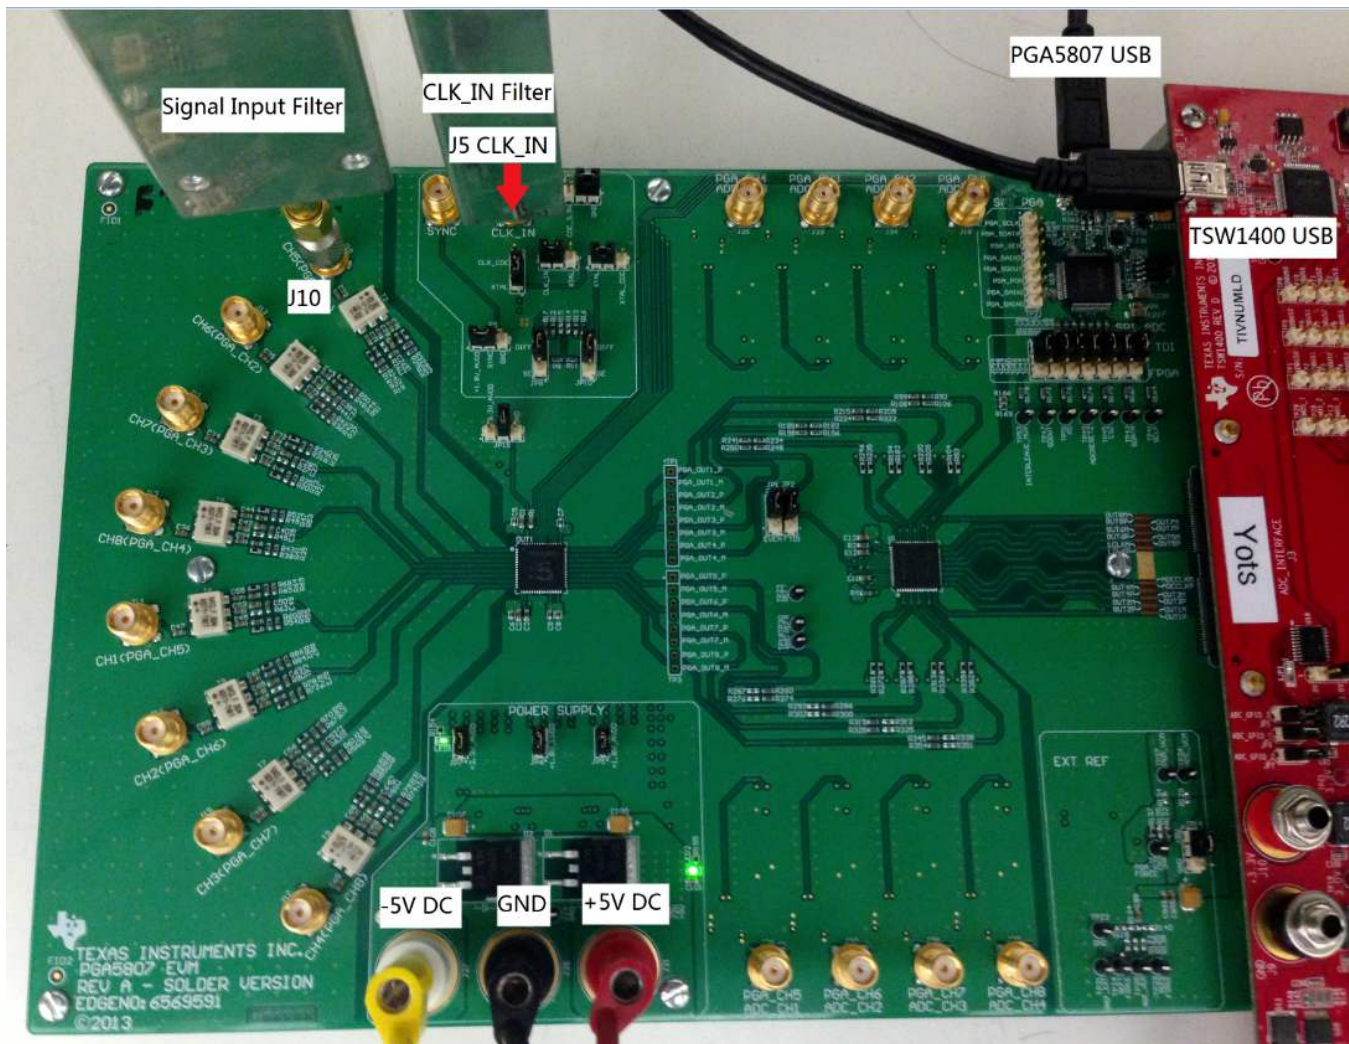

Figure 43. PGA5807 + ADS5296 Gain Test Setup
1. Setup the EVM as shown in Figure 43 by performing the following steps: